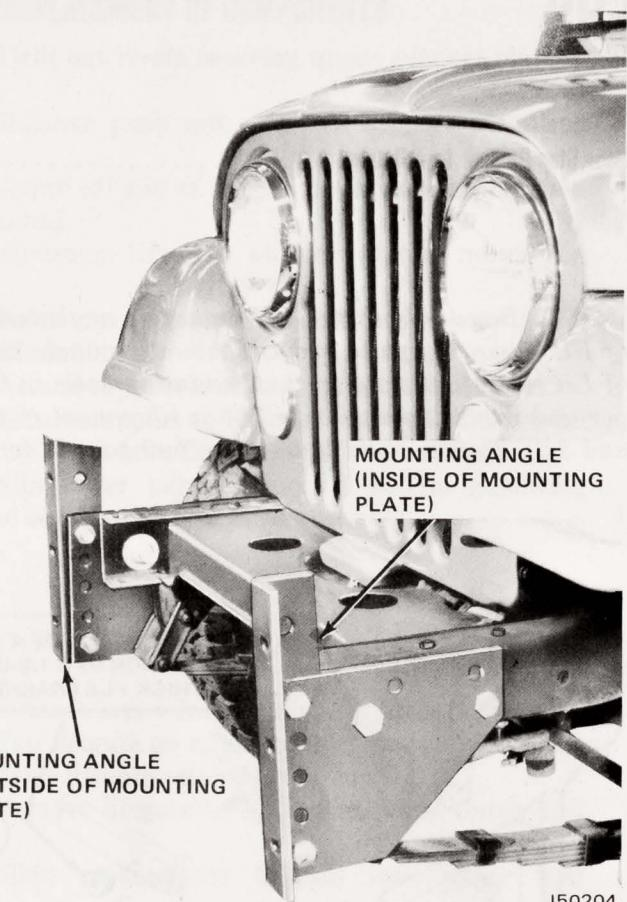

Fig. 3-3 Mounting Angles Installed
(6) Position mounting angles on mounting plates and secure with bolts and locknuts (fig. 3-3).